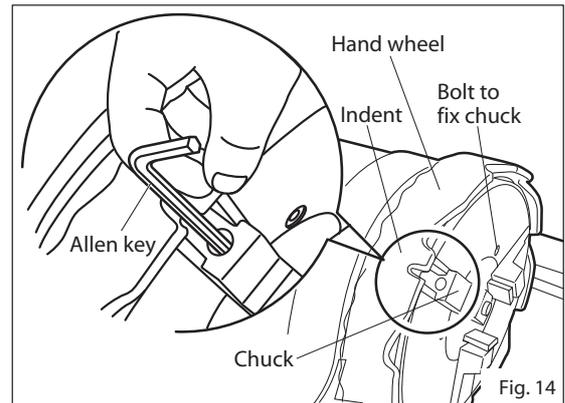

Fig. 14
3. Structure and care of the chuck jaw set (Figs. 14, 15)